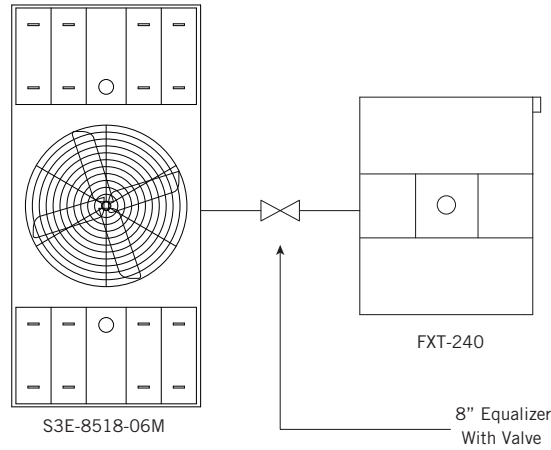

Figure 2. Sample Problem; Equalizer Connection Plan View
- From **Table 8**, an 8" equalizer connection can be located either on the ends or on the bottom of both units. With towers situated side-by-side, it is more convenient to locate the equalizer connections on the ends of both towers, as shown in **Figure 2**.